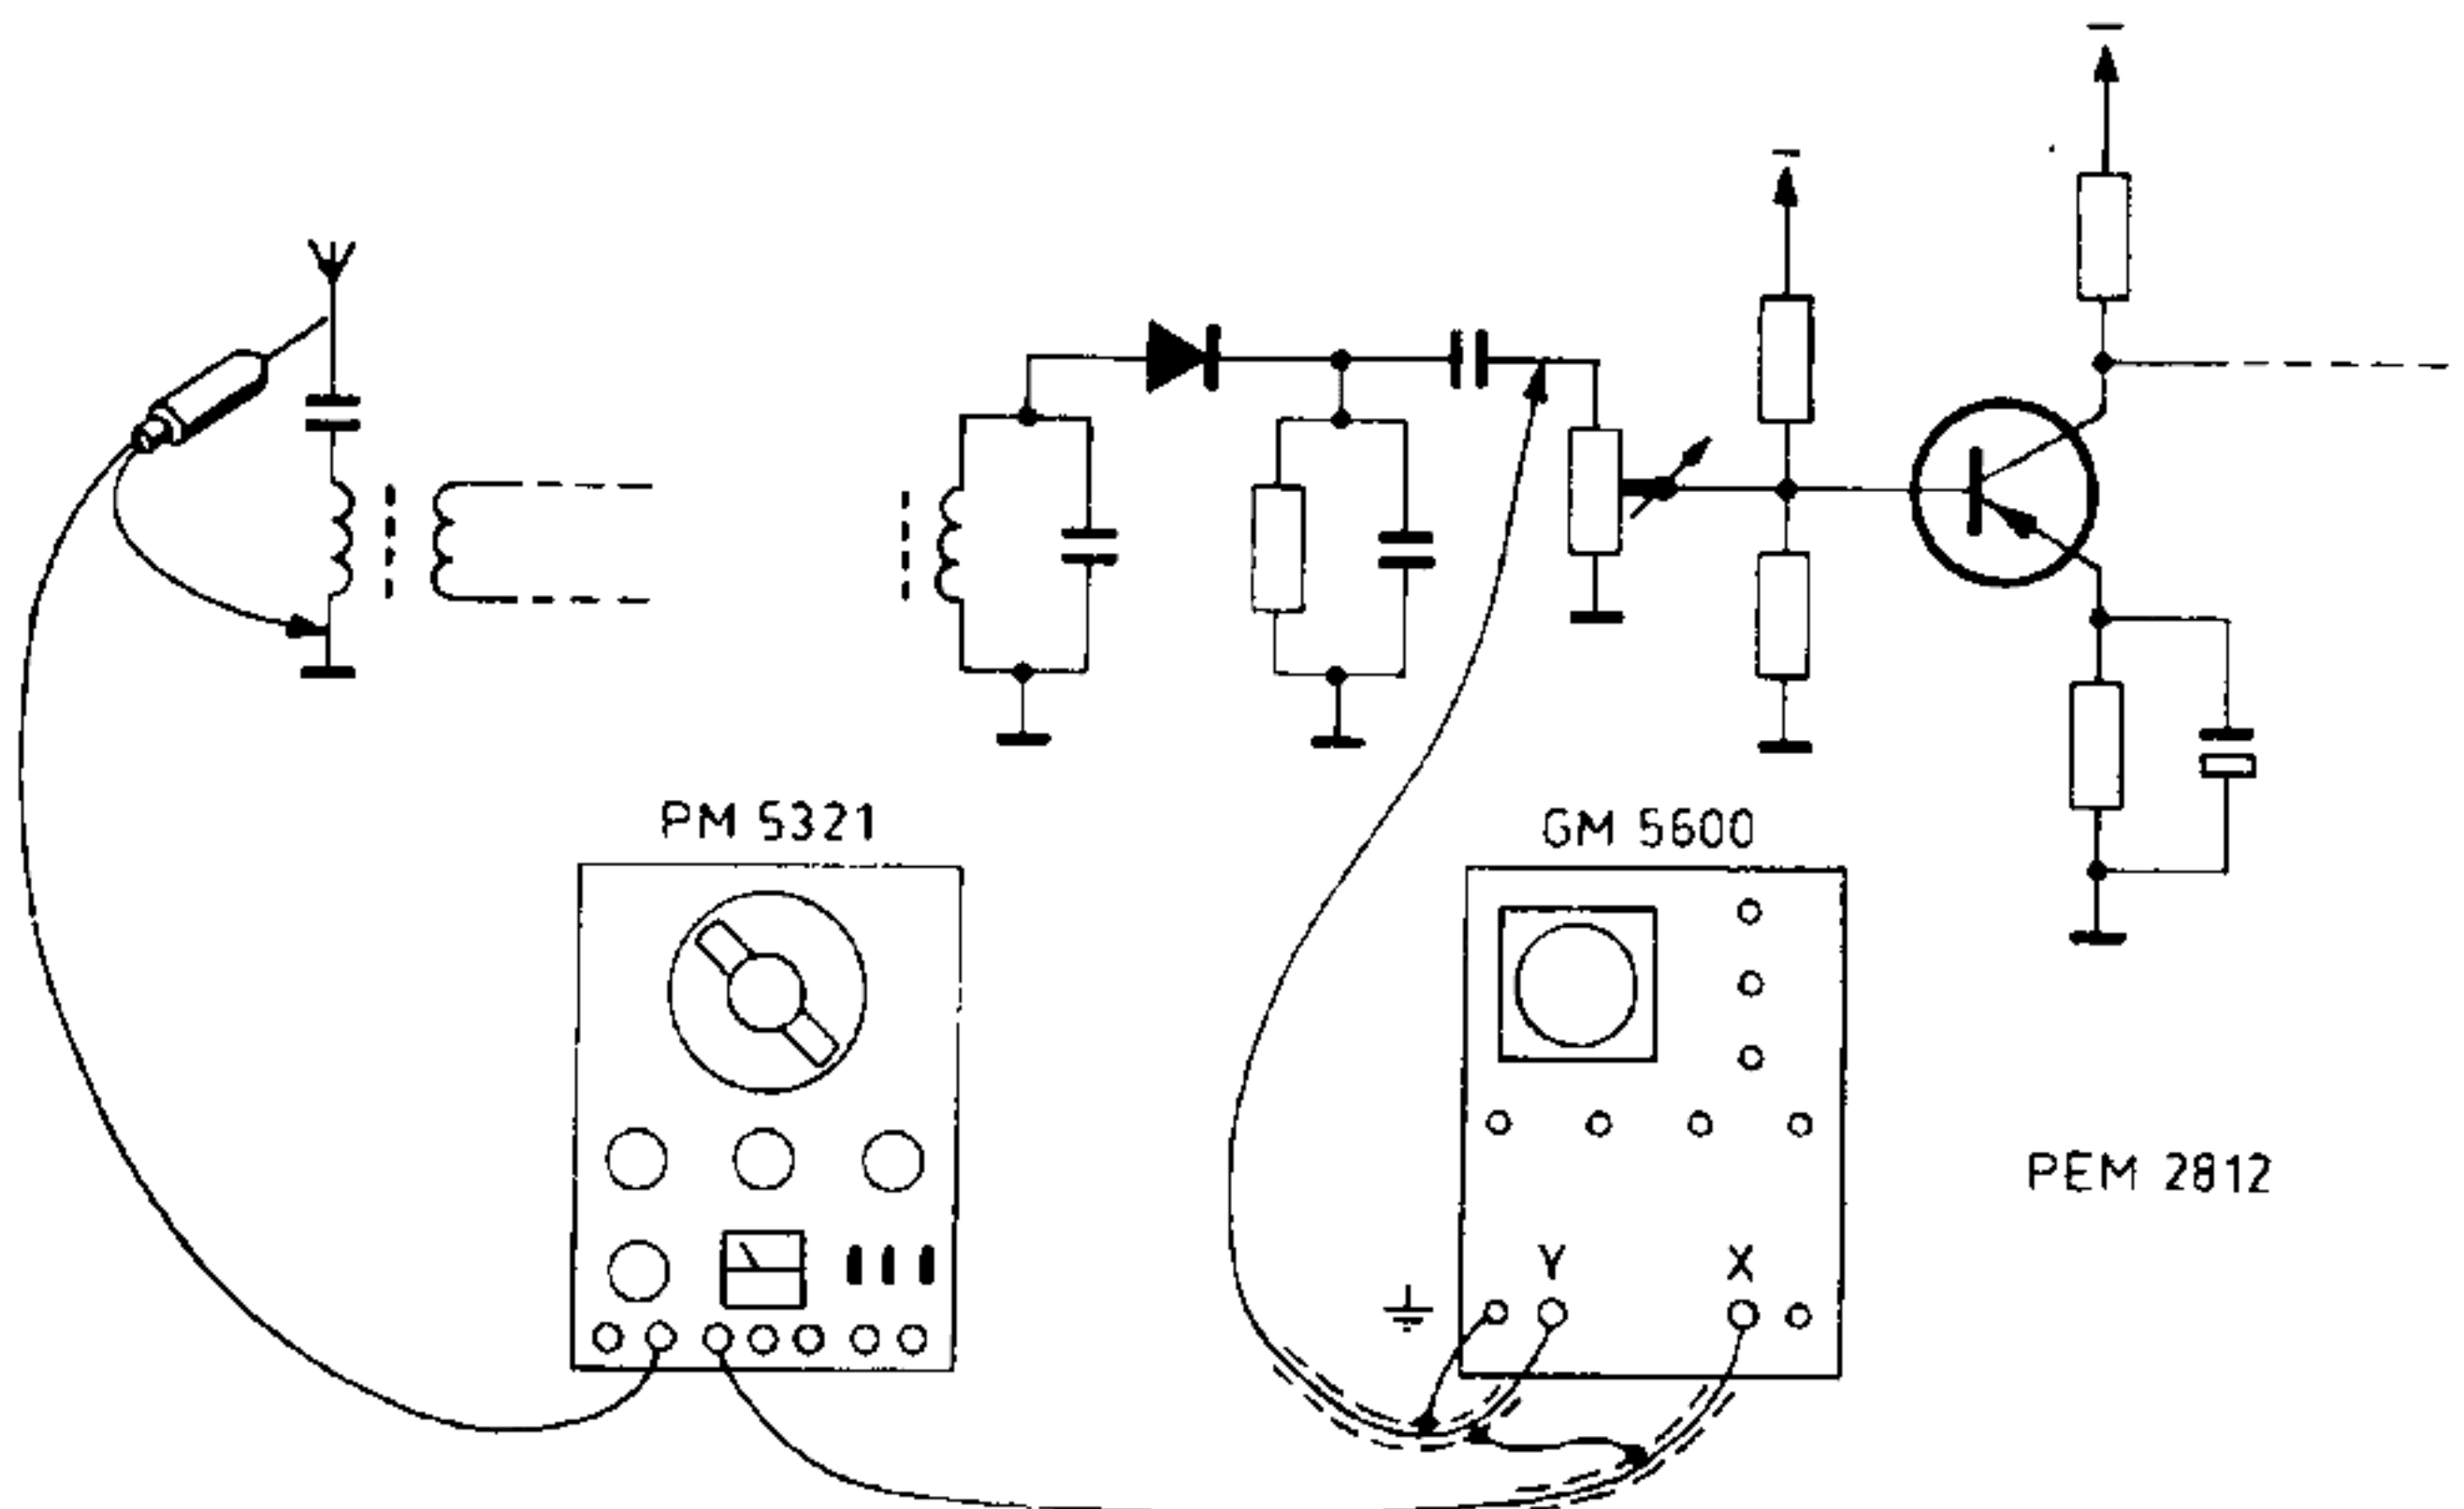

Fig. 14. Dynamic check of the I.F. curve
1. Connect the vertical amplifier of the oscilloscope to the volume control (Fig. 14):